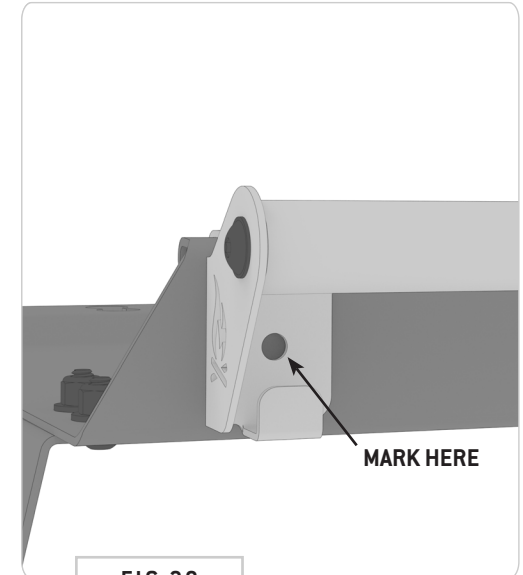

FIG 20
6.2 Mark Headliner Shelf for Drilling: Mark through the mounting holes of the **Curtain Rod** onto the **Headliner Shelf Flange** (FIG 20).